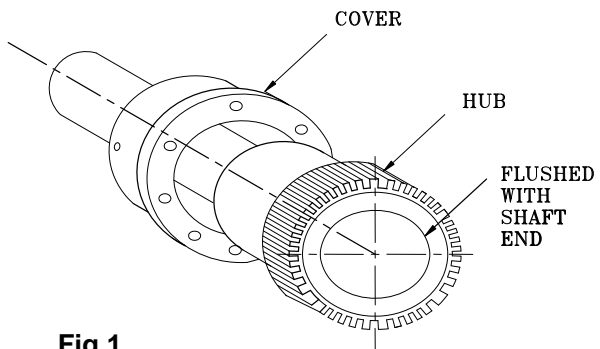

Fig.1
2. Mount the hubs on their respective shafts flushed with the faces of hubs as shown in fig 1 on Page No. 6. Check half cover are place correctly on shafts.